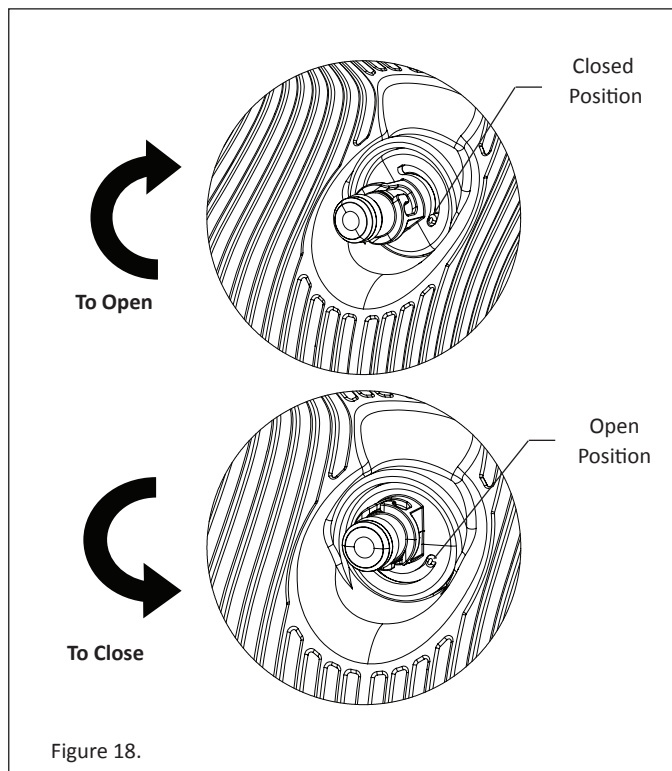

Figure 18.
3. The sweep hose regulator comes from the factory in the closed position. To open the sweep hose regulator, push the sweep hose fitting onto the sweep hose regulator. When it can not be pushed any further turn the sweep hose fitting **clockwise** until it stops (about 45 degrees). **See figure 18.** Pull out on the sweep hose fitting and the fitting will lock into place.
4. To remove the sweep hose and turn off the sweep hose regulator, hold the sweep hose fitting and turn it **counter-clockwise** until it stops (about 45 degrees). **See figure 18.** Pull the sweep hose fitting from the sweep hose regulator and store it in a safe place.